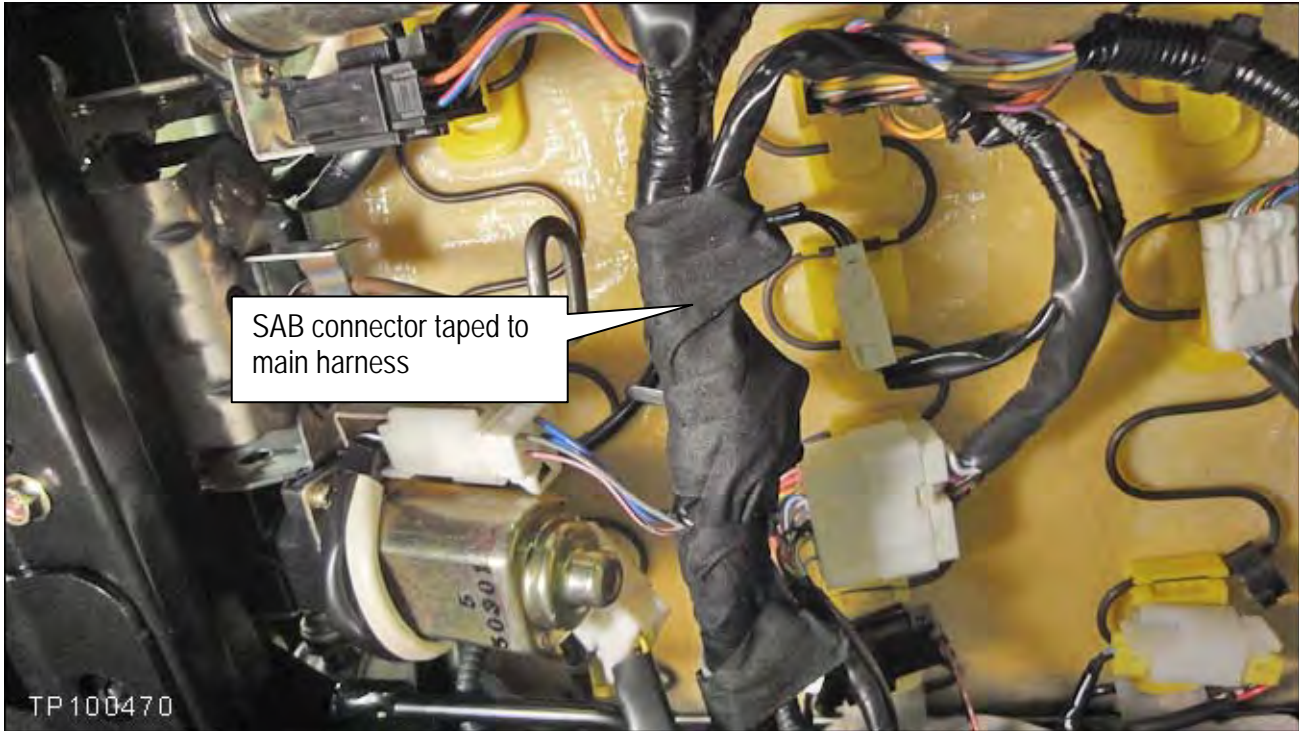

Figure 10b
- b. Completely tape the SAB connector to the main harness as shown in Figure 10b.